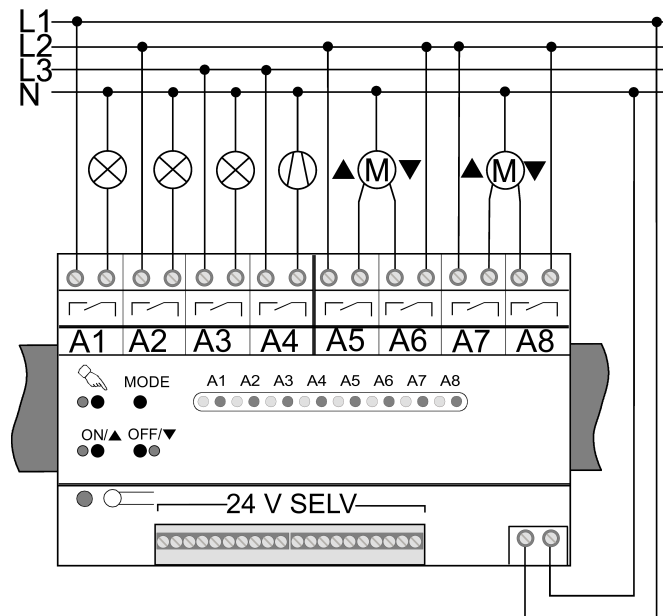

Figure 4: Wiring example for mains voltage and loads
- Connect the mains voltage to connection (7) (see figure 4).
- Connect loads as shown in the wiring example (see figure 4).